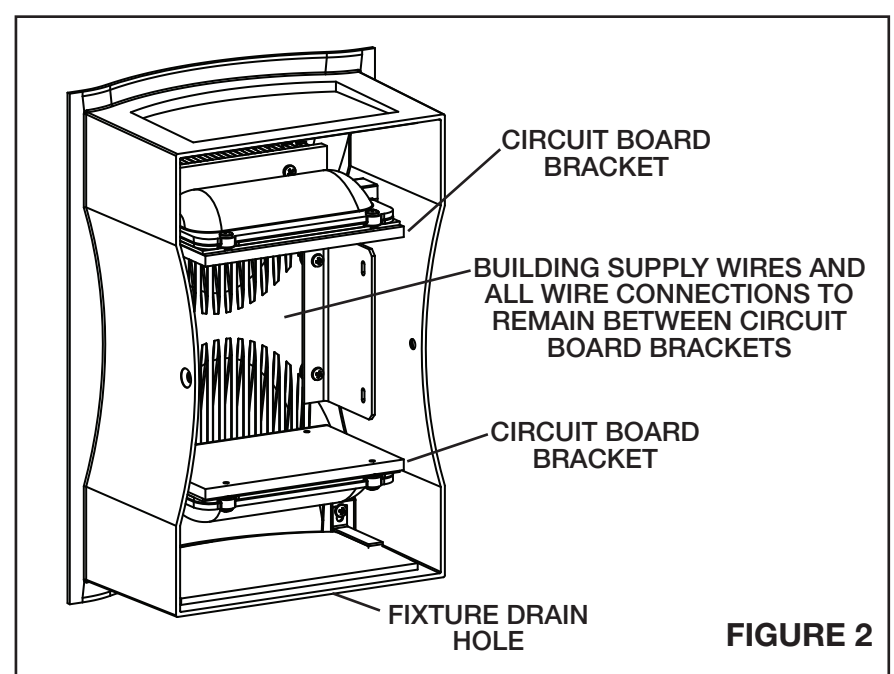

FIGURE 2
- 6) Make wire connections. Building supply wires and all connections must remain between the circuit board brackets as shown in figure 2. Reference chart below for correct connections and wire accordingly.
- 8) Install housing onto back plate. Care must be taken not to pull on or pinch LED supply wires. Secure using two #8 flat head screws provided. Note the fixture orientation label on the housing. Housing is to be orientated with the fixture drain hole on the bottom. See fig. 2.
- 8) Make wire connections. Building supply wires and all connections must remain between the circuit board brackets as shown in figure 2. Reference chart below for correct connections and wire accordingly.
- 10) Install housing onto back plate. Care must be taken not to pull on or pinch LED supply wires. Secure using two #8 flat head screws provided. Note the fixture orientation label on the housing. Housing is to be orientated with the fixture drain hole on the bottom. See fig. 2.